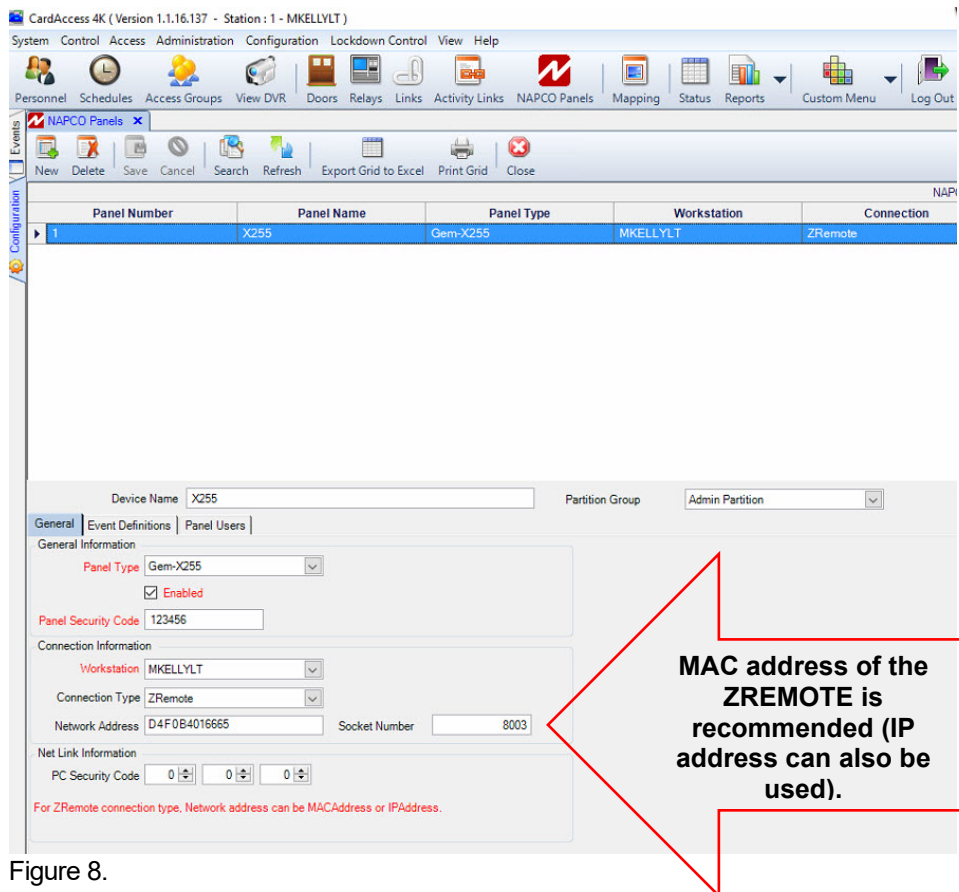

Figure 8.
4. Configure **Napco Panel** screen (General tab) as follows (refer to Figure 8).